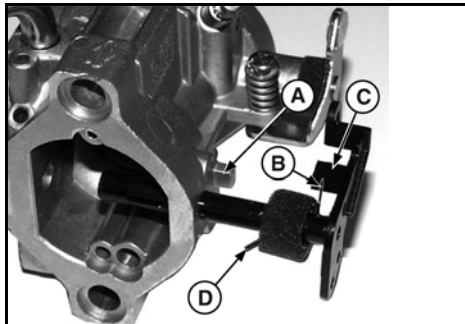

Figure 63
3. Install new seal and spring on the choke shaft with the top of the spring contacting the choke shaft lever (B, Figure 63).